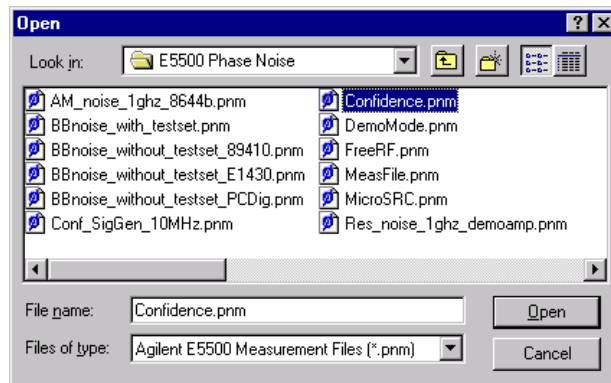

Figure 1-36 Opening the Parameters Definition File
- 3 In the **File Name** box, open **Confidence.pnm**. See Figure 1-36.